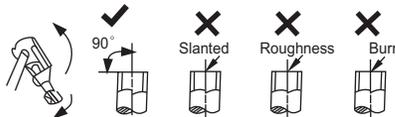

Fig. 16 – Pipe Cutting
- a. Cut the pipe, with a pipe cutter, at 90 degrees (see Fig. 16).